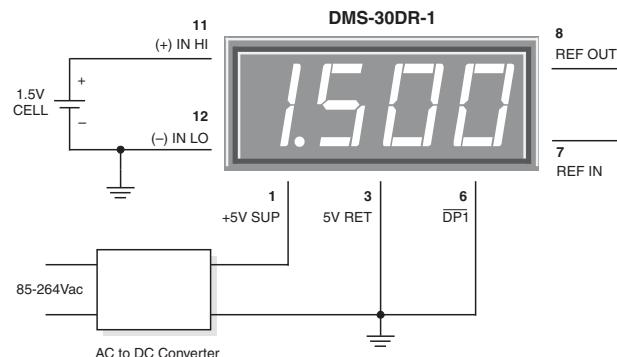

Figure 5. Floating Input Measurements
4. Floating Signal Source Measurements: Floating signals can be measured using the circuits shown in Figures 5 and 6. Connecting pin 10 (ANALOG COMMON) or pin 3 (5V RETURN) to (-) INPUT LO (pin 12) provides the reference point for the meter's input.